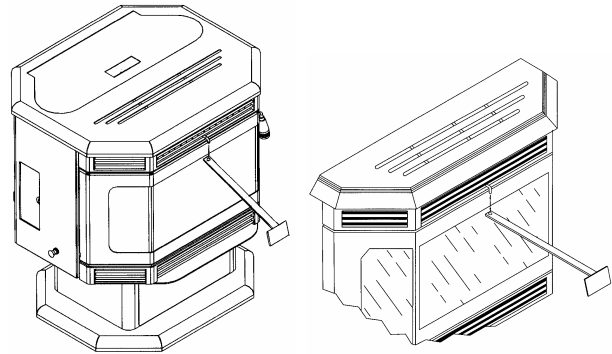

FIGURE 22
- With the door closed clean heat exchanger tubes. (See “**CLEANING**” and Figure 22).
- Heat Exchange Tubes** – Your Breckwell stove is designed with a built-in heat exchange tube cleaner. This should be used every two or three days to remove accumulated ash on the tubes, which reduces the efficiency of your unit. Insert the handle end (with hole) of the cleaning tool onto the cleaning rod (refer to figure 22). The cleaner rod is located in the grill above the stove door. Move the cleaner rod back and forth several times to clean the heat exchanger tubes. When finished be sure to leave tube cleaner at the rear of the stove.